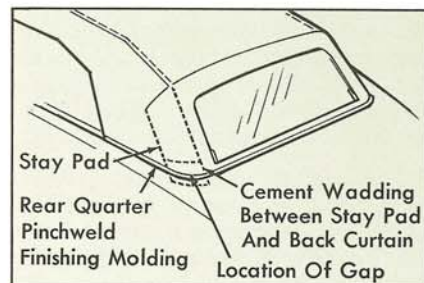

FIG. 3
4. Cement a piece of sheet wadding to the stay pad at the location shown in Fig. 3. The wadding should be located between the back curtain and the stay pad along the gap area.